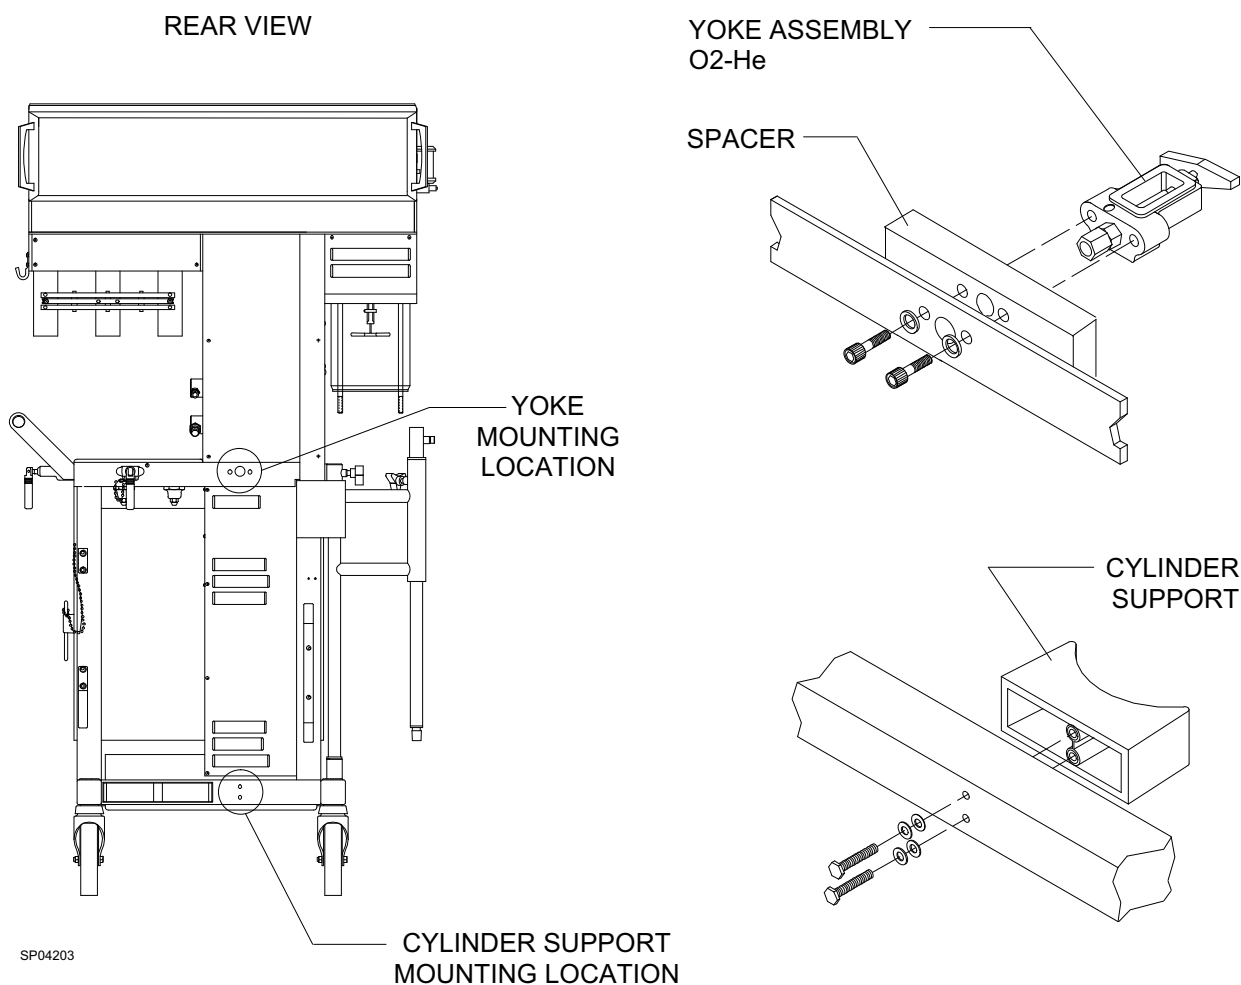

Figure 3: O₂-He YOKE AND CYLINDER SUPPORT MOUNTING LOCATIONS
19. Mount the cylinder support on the bottom frame rail at the back of the machine (see Figure 3) using two $\frac{1}{4}$ -20 x 2½ in. hex head screws, lock washers and flat washers.
20. Mount the O₂-He yoke and spacer block (if required) on the upper frame rail of the machine as shown in Figure 3. Use two 5/16-24 x 1¾ in. socket head screws and lock washers. Ensure that the yoke has a "O₂-He" label.